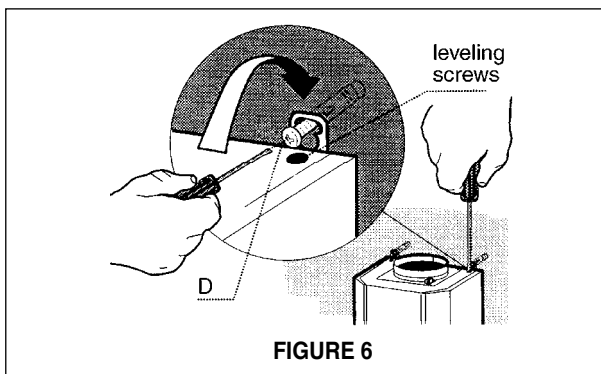

FIGURE 6
3. Before mounting the CANOPY SECTION, tighten the two leveling screws located near the CANOPY SECTION mounting points as indicated in **FIGURE 6**.
4. Hook the body on to the MOUNTING SCREWS (**D in FIGURE 6**) and fully tighten the MOUNTING SCREWS.